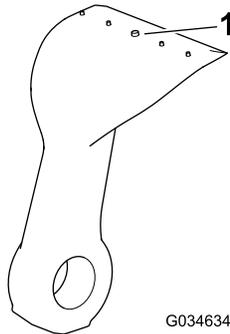

Figure 81
4. Inspect each blade for excessive wear using the wear line (Figure 81). When a blade is worn down to the wear line, replace the blade.